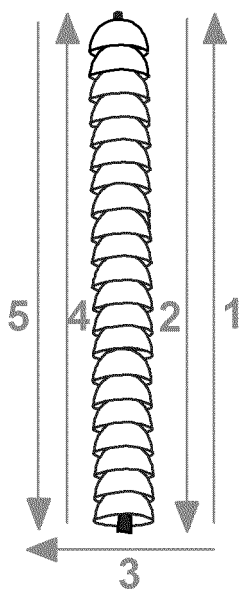

Figure 5-17
- B. Use one style of the straight method to wash a single-segment, 60-kV to 70-kV insulator. (See Figure 5-17 below.)